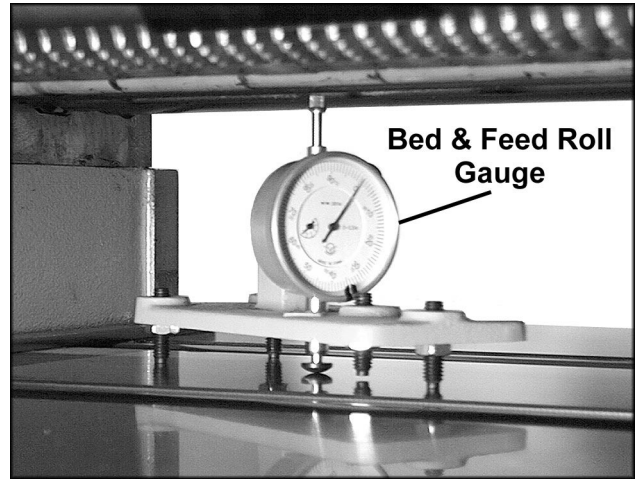

FIGURE 10
1. Place a bed and feed roll gauge (accessory #2230002) under a knife in the cutterhead and raise the table until the gauge contacts the knife at the apex of its curve. See Figure 10.